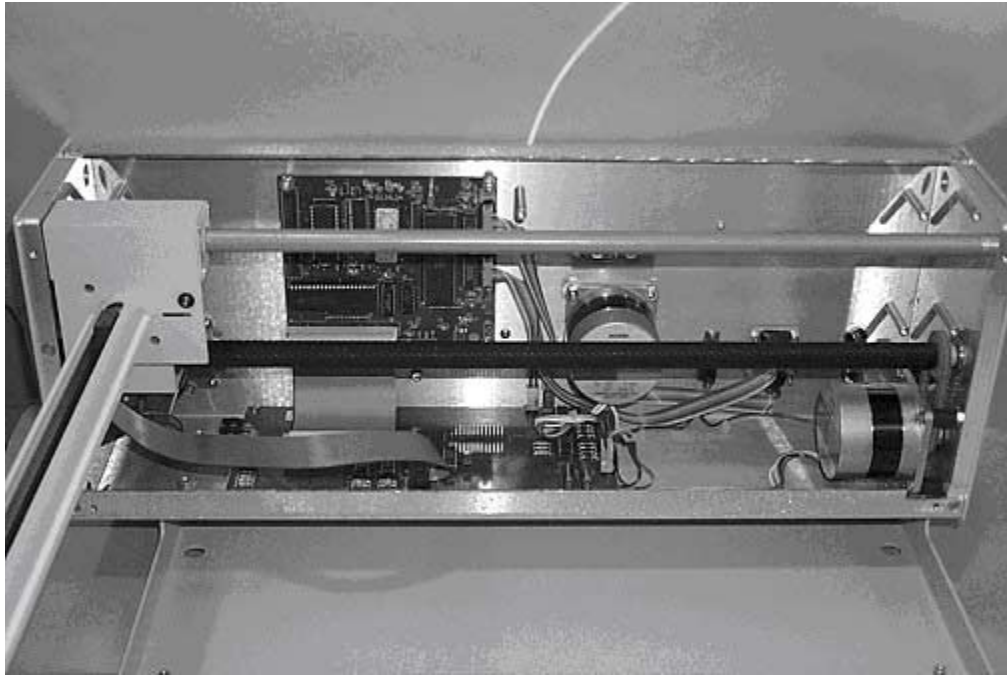

**Figure 1-9.** View of inner shield inside the ASX-510.
7. The five screws that hold the inner shield will have to be removed. Move the Y-axis assembly all the way to the left. See Figure 1-9.